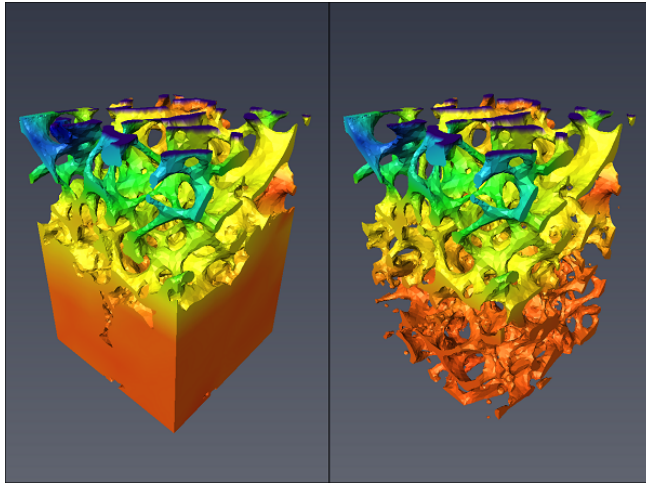

Figure 23.19: Tetragrid Visualisation (left - cement/bone ; right - bone)
- Load tetrahedral grid data `data/tutorials/xvolume/mcorrelation/BCI_reference3.labels.tetra.am` (Figure 23.19).